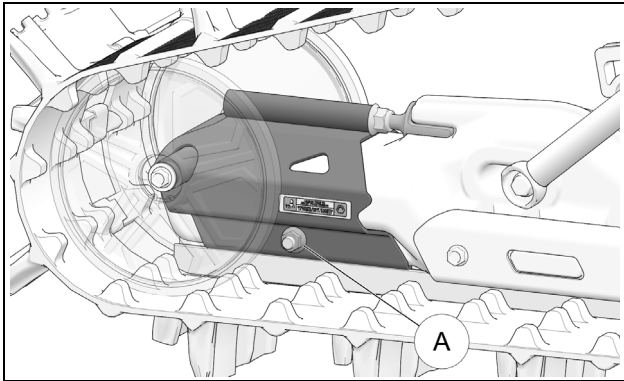

Figure 19
**CAUTION:** Track Tensioner assembly bolt (A) must be loosened before adjusting track tension. See Figure 19.
- Tighten assembly bolt (A) back to 35 N-m (25 lb-ft) of torque once Track tension is set. See Figure 19.